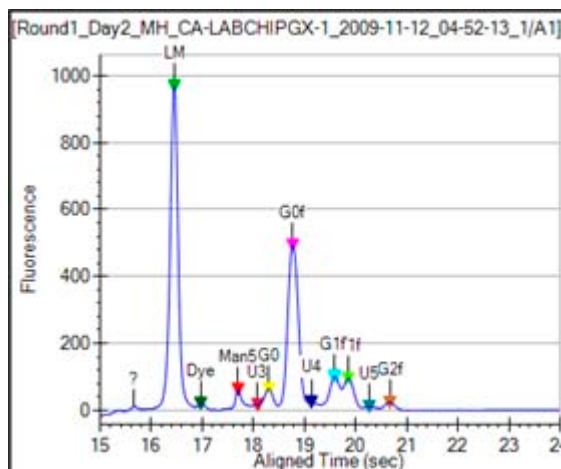

Figure 18. Markers - Glycan
- 6 A **Lower Marker** is the internal standard used to align the ladder data with data from the sample wells. Figure 18 shows an example of the assigned **Lower Marker** peak (marked LM) in a sample well.